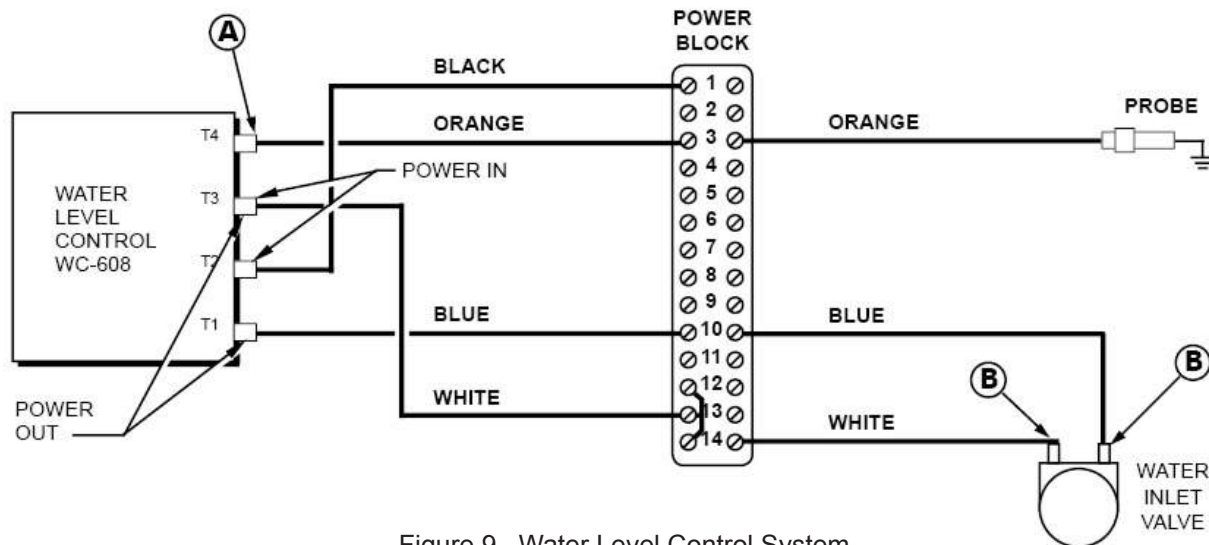

Figure 9. Water Level Control System.
- II. Turn the unit on and clamp the leads of your voltmeter at the terminals of the valve coil as shown at **B** of figure 9. Under normal conditions, the voltmeter should read 110 to 120 volts while the urn is filling up and power to the coil should stop once the water level reaches the probe tip. If the voltmeter does not show voltage, the liquid level control board is not working properly. It is not sending
- III. If both the probe and the liquid level control board are functioning normally, check the water inlet valve. Turn on the unit and disconnect the white and the blue wires from the coil on the valve (points **B** of figure 9). Use a lamp cord with alligator clips; hookup the terminals to the cord. Plug the cord into a 120 volt outlet. The valve should open when plugged in and close when unplugged. Repeat this three or four times. If you don't hear the sound of the solenoid, then the coil is bad. If you hear water flowing through the valve when unplugged, the diaphragm is either torn or needs cleaning. Replace the coil, diaphragm or clean out the valve.